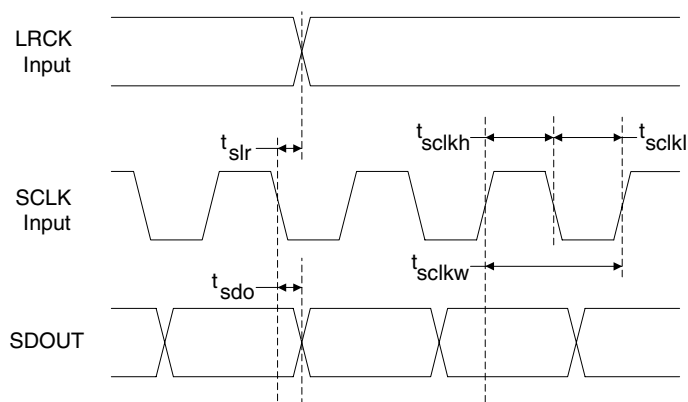
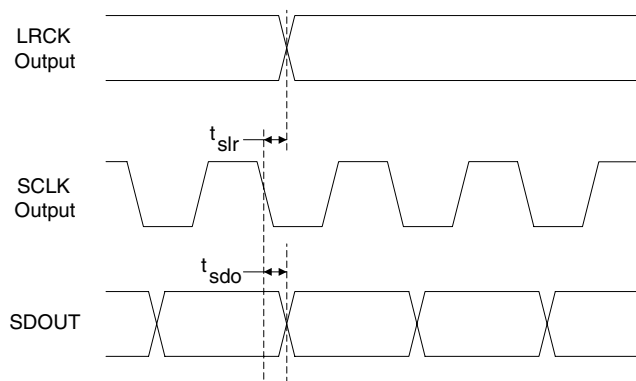

Figure 1. Master Mode Serial Audio Port Timing
Figure 2. Slave Mode Serial Audio Port Timing
16. See Figure 1 and Figure 2 on page 17.